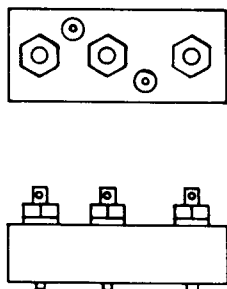

Fig. 1—451A Jack
2.01 **451A:** This multicontact jack (Fig. 1) is used with the 306A plug. This jack consists of an insulating block provided with three prongs - each having one end used as a terminal.